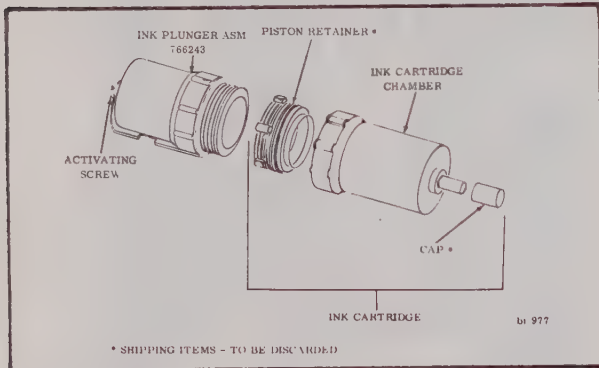

**FIGURE 6-5. INK CARTRIDGE ASSEMBLY**
4. Unscrew ink cartridge from plunger assembly and discard. Refer to Figure 6-5.